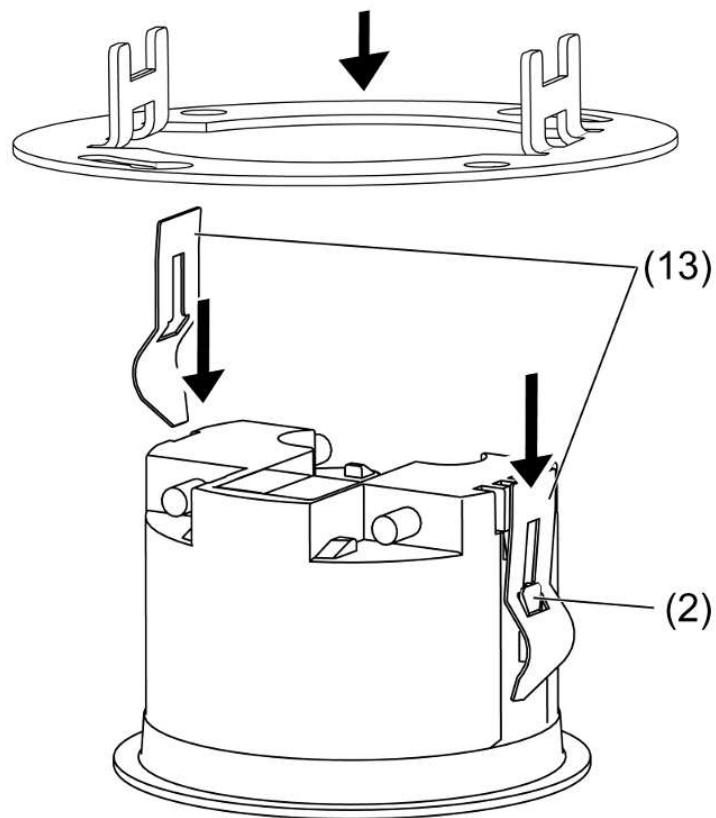

Figure 10
- Push the friction springs (13) as illustrated on the guides (2) from behind until they snap into place (see figure 10).